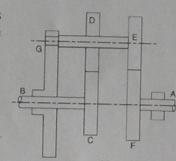

Fig 2
2. In an epicyclic gear train, as shown in Fig. 2, the wheel C is keyed to the shaft B and wheel F is keyed to shaft A. The wheels D and E rotate together on a pin fixed to the arm G. The number of teeth on wheels C, D, E and F are 35, 65, 32 and 68 respectively. If the shaft A rotates at 60 r.p.m. and the shaft B rotates at 28 r.p.m. in the opposite direction, find the speed and direction of rotation of arm G. [Ans. 90 r.p.m., in the same direction as shaft A]